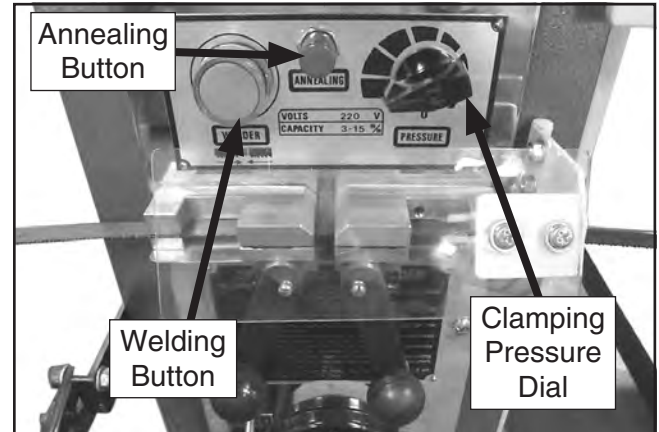

Figure 48. Blade ends in correct position for welding.
- Place the other blade end in the opposite welding clamp and position it so that it evenly butts up against the opposing blade end, then lock it in place by rotating the lock lever all the way up, as shown in **Figure 48**.